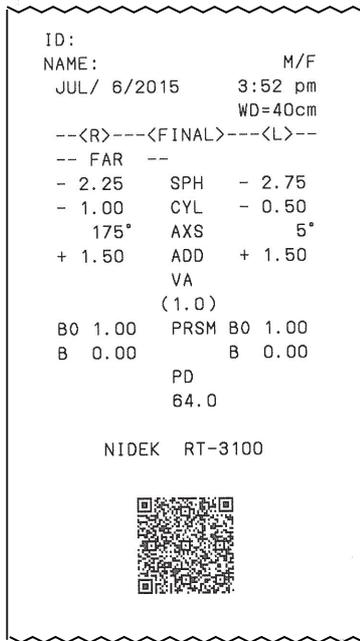

Figure 1
- When the QR code parameter is set to “QR1”, the final data and the QR code are printed. See Figure1.